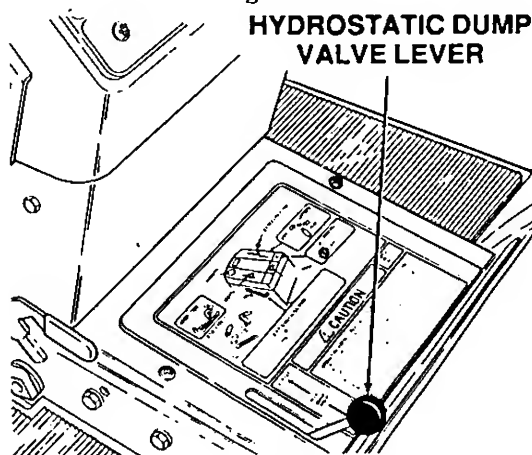

Figure 11
2. To disengage the dump valve, release the lever. (Refer to Figure 11.)